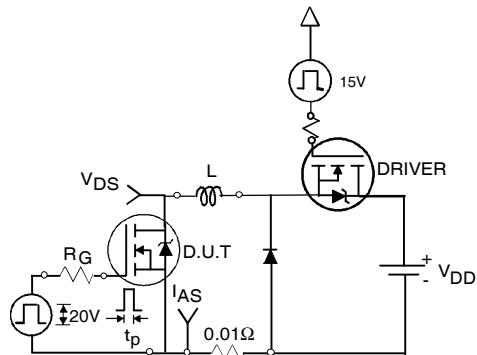

Fig 12a. Unclamped Inductive Test Circuit
- ④ Pulse width $\leq 400\mu\text{s}$; duty cycle $\leq 2\%$.
- ⑤ $C_{\text{oss eff.}}$ is a fixed capacitance that gives the same charging time as C_{oss} while V_{DS} is rising from 0 to 80% V_{DSS} .
- ⑥ Calculated continuous current based on maximum allowable junction temperature. Package limitation current is 75A.
- ⑦ Limited by $T_{J\text{max}}$, see Fig.12a, 12b, 15, 16 for typical repetitive avalanche performance.
3. Equation below based on circuit and waveforms shown in Figures 12a, 12b.